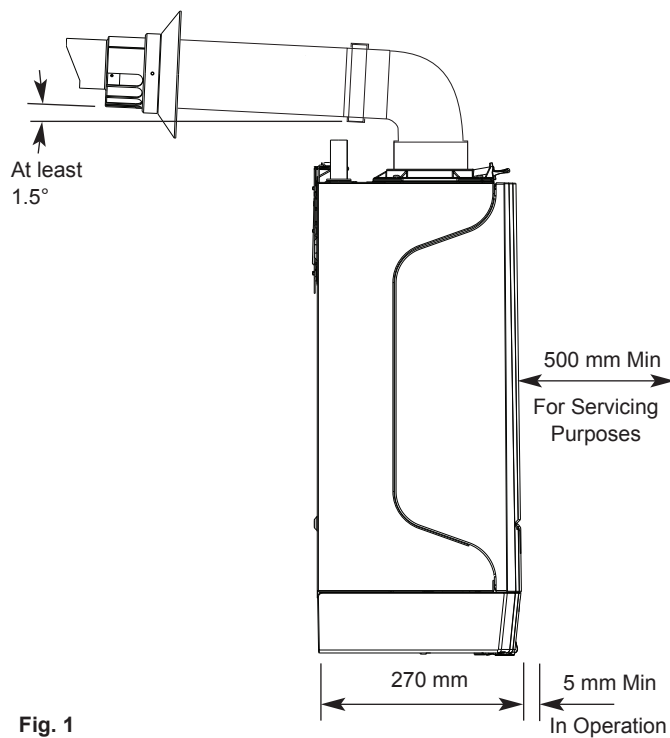

Fig. 1
2. These dimensions include the necessary clearances around the boiler for case removal, spanner access and air movement (Figs. 1 & 2). Additional clearances may be required for the passage of pipes around local obstructions such as joists running parallel to the front face of the boiler.